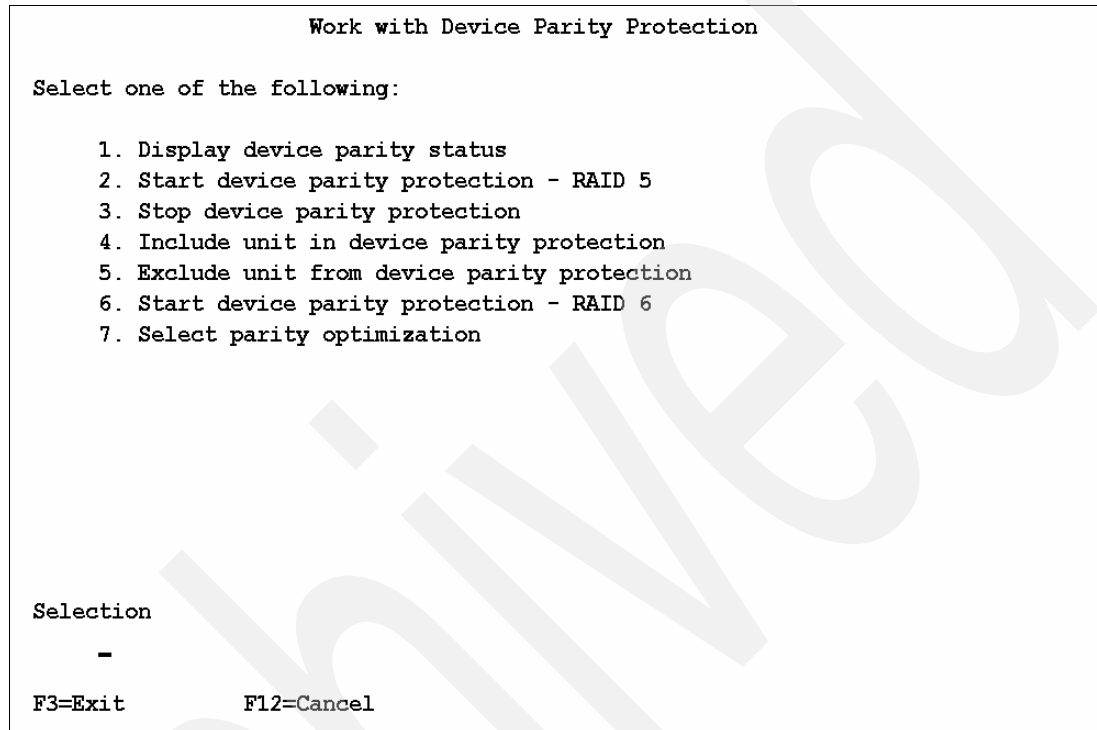

Figure 3-4 Changing RAID optimization using DST
4. The screen in Figure 3-4 appears. Enter 7 for Select parity optimization.